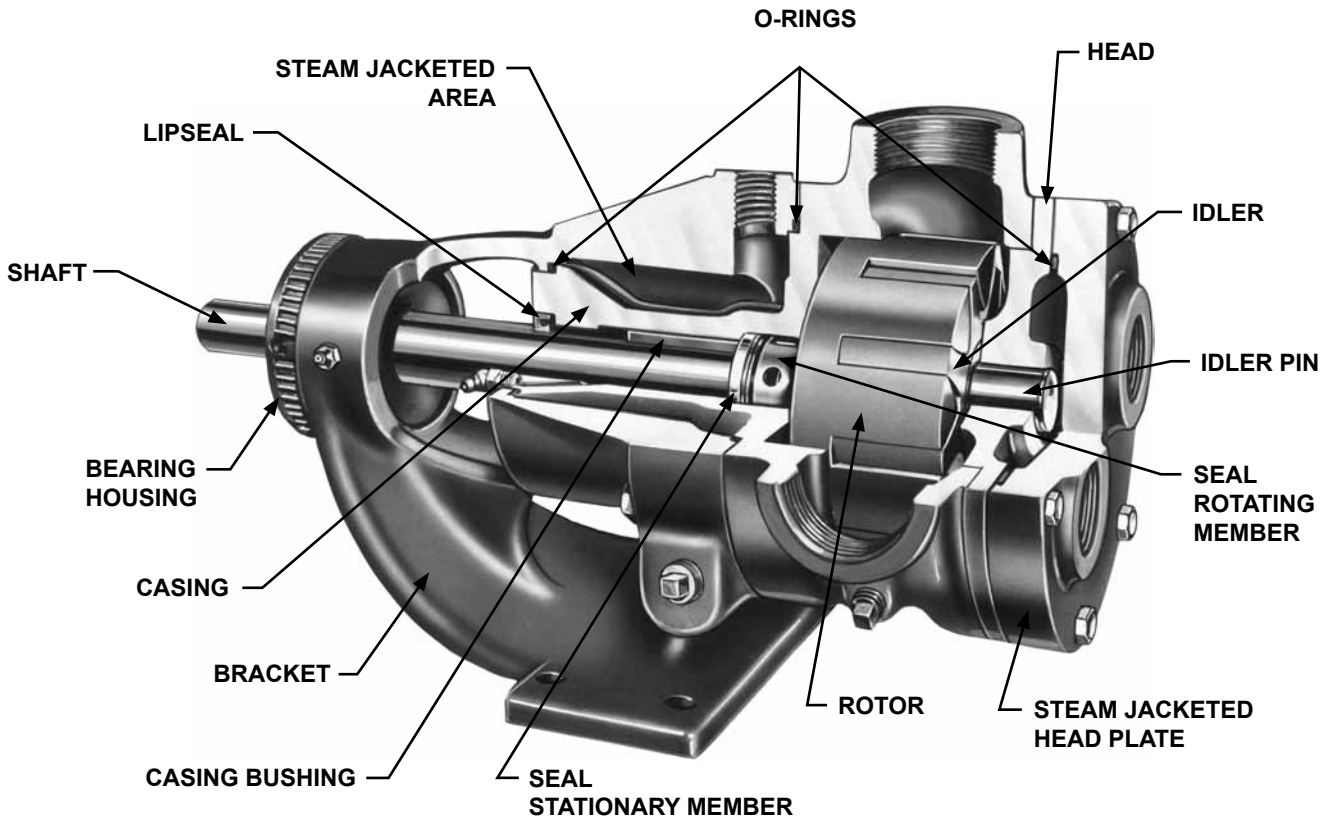
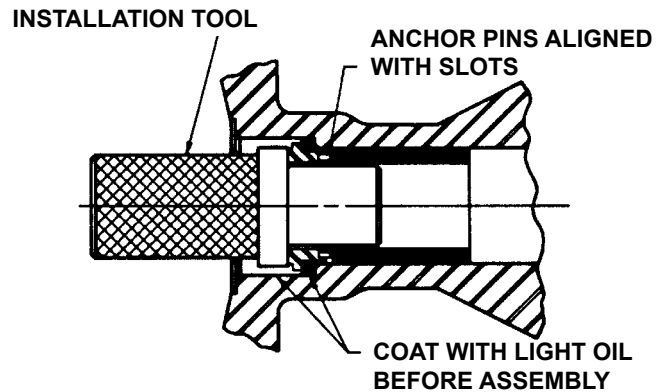
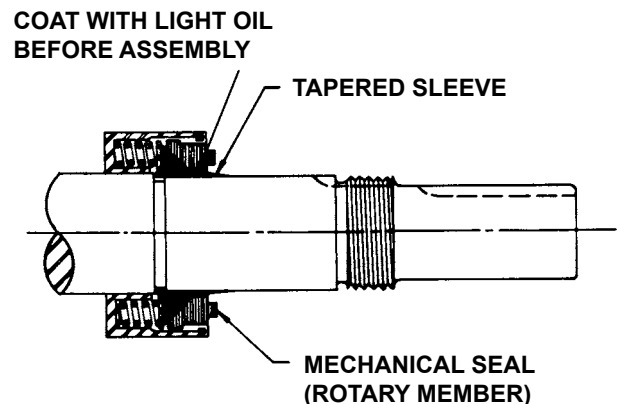
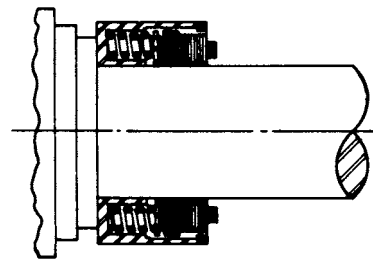

FIGURE 4
FIGURE 6
FIGURE 7
FIGURE 8
13. Mechanical Seal (Series 4724): If the mechanical seal in your pump ever fails, it can be easily replaced with a new seal. There are two basic parts to this seal. They are the rotary member and stationary seat (**See Figure 4**). Loosen the set screws holding the rotary member on the shaft. Remove the rotary member from the shaft and the stationary seal seat from the casing. The principle of the mechanical seal is the contact between the rotary and stationary members. These parts are lapped to a high finish and their sealing effectiveness depends upon complete contact.
1. Installing new seal (Series 4724): The seal is simple to install and good performance will result if care is taken during installation. (**See Figure 4**) for parts identification. **NOTE:** Never touch the sealing faces with anything except the fingers or a clean cloth. Clean the rotor hub and casing seal housing, making sure both are free from dirt and grit. Coat the outside diameter of the seal seat and the inside diameter of the seal housing bore with light oil. Start the seal seat in the seal counterbore. Be sure the seat anchor pins are aligned so as to engage the slots in the end of the casing bushing as in **Figure 6**. Using a cardboard cushion to protect the lapped face of the seal seat, tap the seat assembly to the bottom of the seal counterbore with a wooden ram and a light hammer. (Factory installation is accomplished with a special arbor. It has a major diameter which covers the entire seat face and has an extension through the seat which pilots in the casing bushing). Place the tapered sleeve (furnished with replacement seals, H-LL sizes) on shaft as in **Figure 7**. Coat the inside of the rotary member and the outside of the tapered sleeve with the light oil. Place rotary member on the shaft, over the sleeve and against the hub of the rotor. (**See Figure 8**).